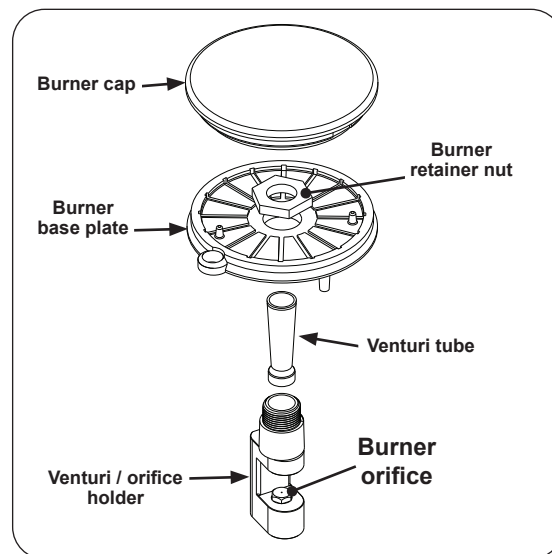

Fig. 25-1 Burner details
2. Remove the burner cap and the venturi tube (see Fig. 25-1).